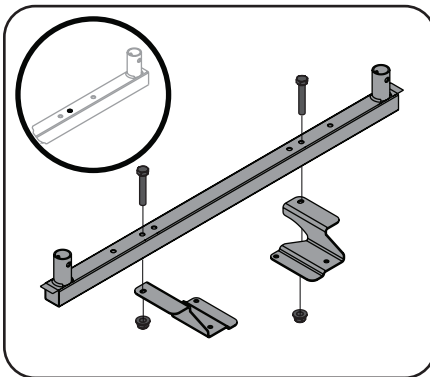

Figure 3-7
3. Assemble Support (683-05347) and Mounting Brackets (789-00425, 789-00424) by using 2 Hex Head Capscrews (710-3180) and 2 nuts (712-04063) as shown in Figure 3-7.